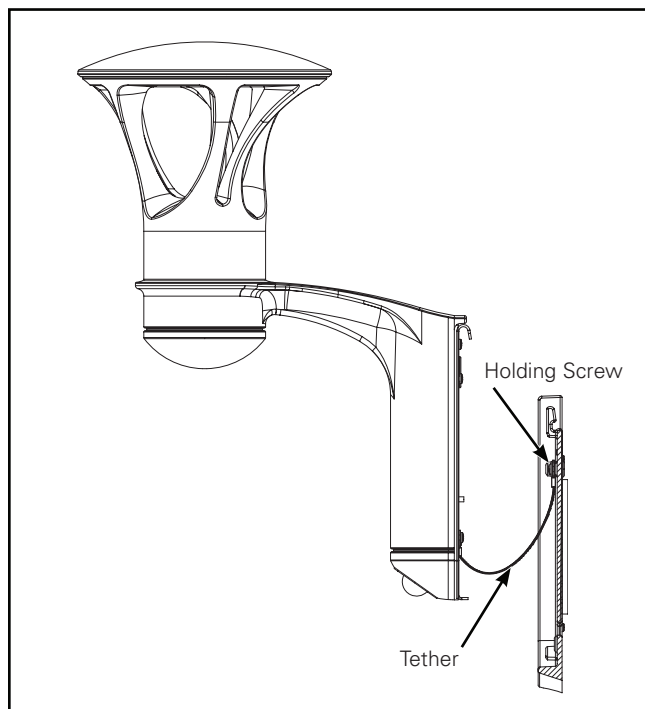

Figure 3.
4. Remove Luminaire from packaging and attach tether over washer on mount plate. Let fixture hang, making sure paint is not scratched or damaged. (Figure 3.)